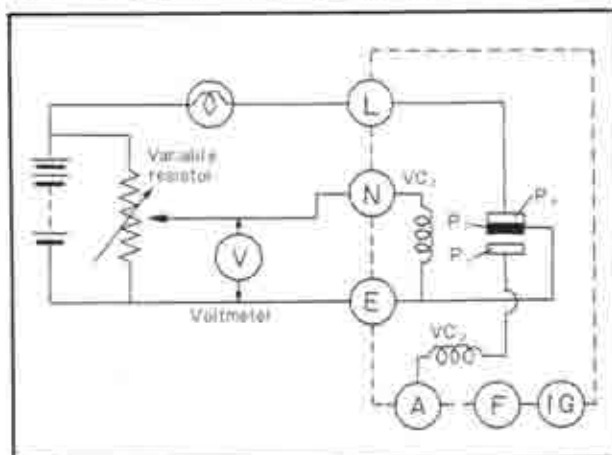

Fig. 5-16 Checking of pilot lamp relay
Make a circuit, as shown in Fig. 5-16, using a voltmeter and variable resistor, and light up the pilot lamp. Then, slide the knob of the variable resistor so that the voltage gradually increases. Read the voltage between the (N) and (E) terminal when the lamp goes out. If this voltage is 4.2 to 5.2 volts, it is normal. Next, slide the knob to gradually reduce the voltage and the lamp will light again. If the reading is 0.5 to 3.0 volts at this time, it is proper.